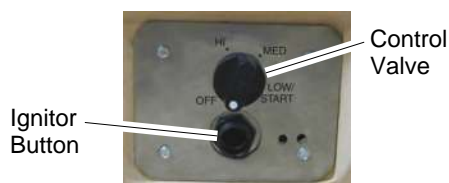

Figure 7 - Ignitor Button and Control Valve
3. After correcting leaks, wait five (5) minutes to clear out any gas. If you then smell gas, STOP! Follow the safety information in column 1. If you do not smell gas, go back to step 1.
4. Push in and hold the electronic spark ignitor button (see Figure 7). **Note:** You should be able to hear a rapid clicking sound from the burner bowl when the ignitor button is depressed. If you do not hear anything, see *Battery Check*, this page, and *Troubleshooting*, pages 8 and 9.
5. Turn control valve knob counterclockwise to LOW (see Figure 7). Push in and hold control valve knob.